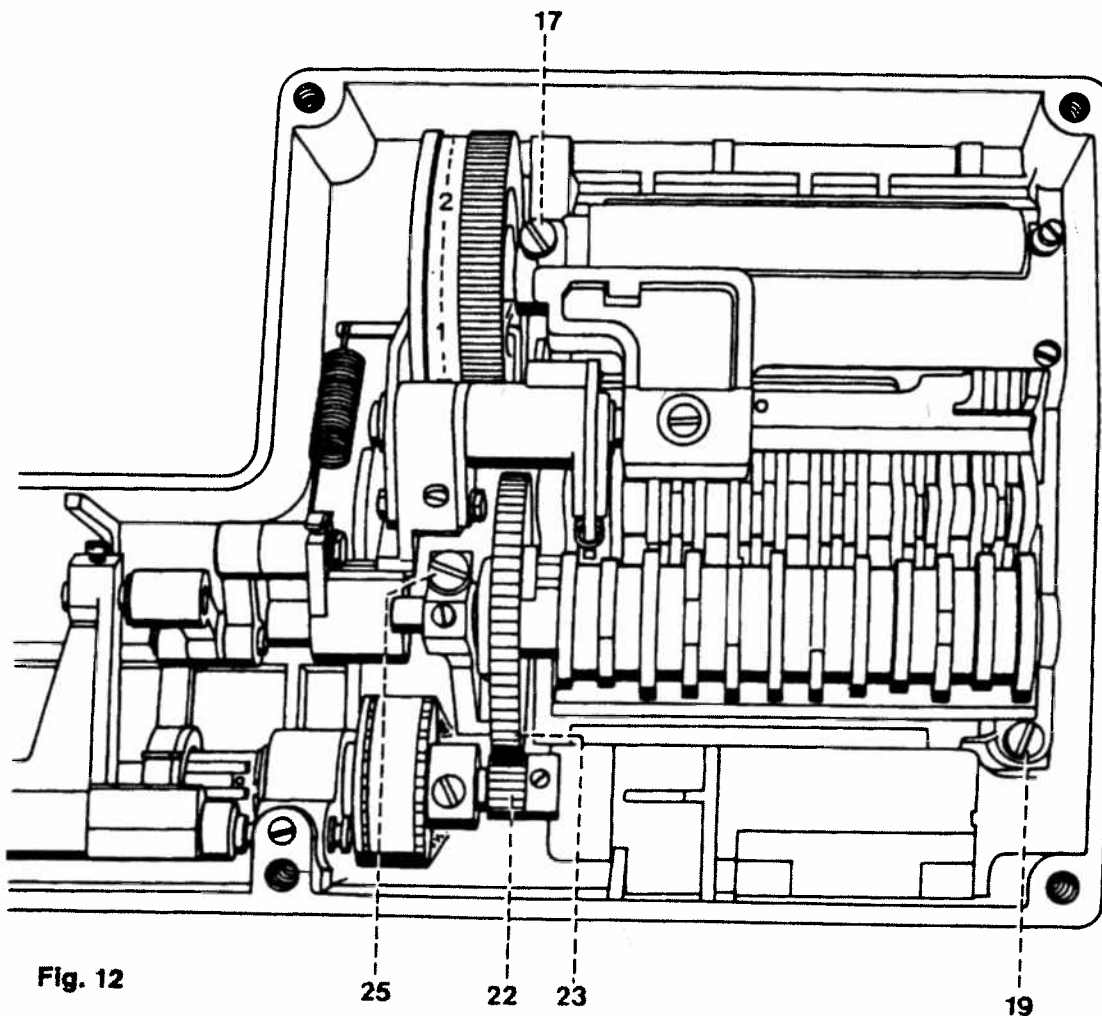

Fig. 12
- Having loosened the three screws 17, 19 and 25 adjust the two gears 22 and 23 so that they are parallel (fig. 12).